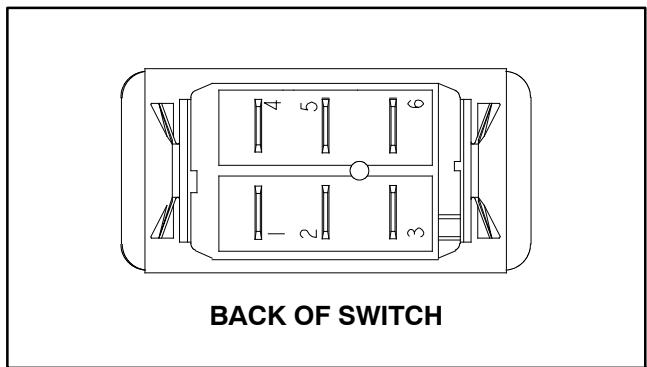

Figure 49
4. The switch terminals are marked as shown in Figure 49. The circuit logic of the air conditioning switch is shown in the chart below. With the use of a multimeter (ohms setting), the switch functions may be tested to determine whether continuity exists between the various terminals for each position. Verify continuity between switch terminals. Replace switch if testing identifies a faulty switch.